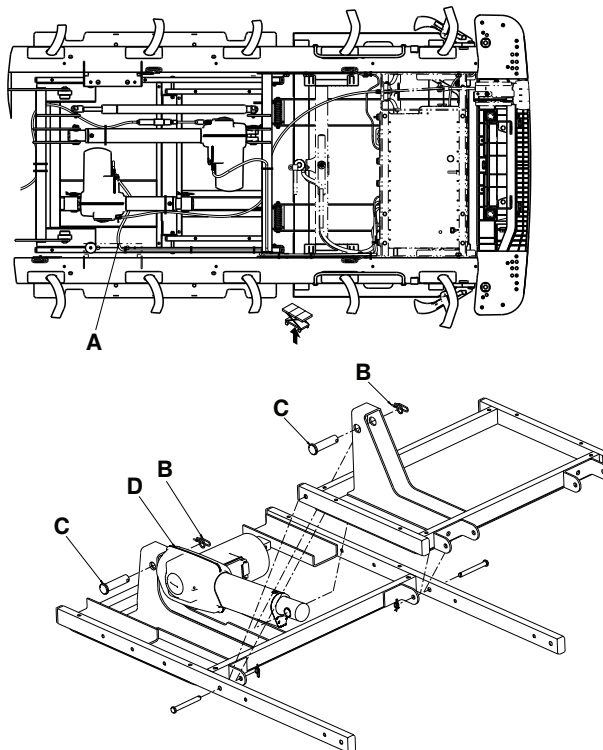

Figure 29 – Gatch actuator replacement
5. Using a small slotted screwdriver, remove the actuator power cable retainer and unplug the power cable (A) from the actuator (Figure 29).